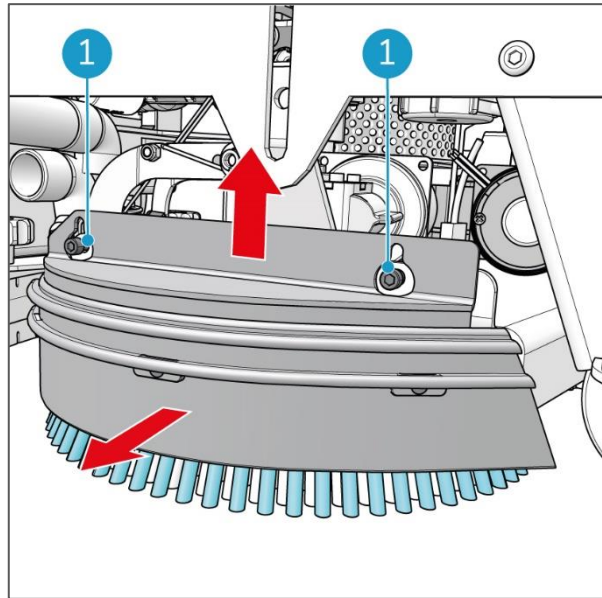
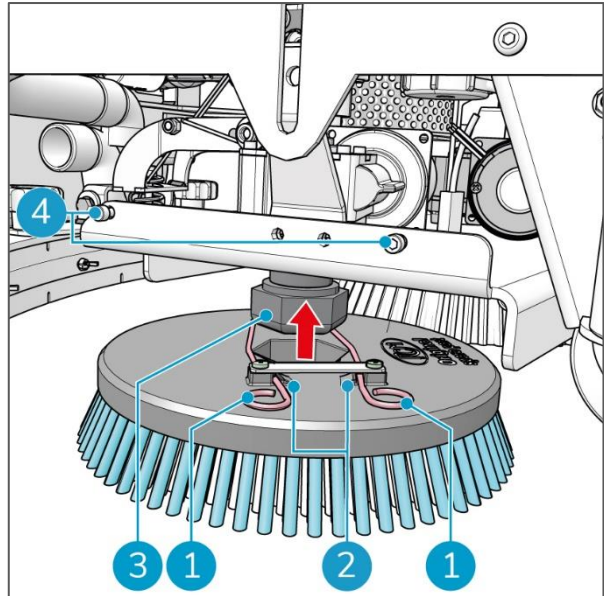

Figure 47
Figure 49
3. Pull it from its supporting bolts (Figure 47, pos 1) to remove it.
1. Make sure that the springs (Figure 49, pos 1) are locked into place behind the cams (Figure 49, pos 2).
2. Push the disc brush on the hexagonal nut of the drive shaft (Figure 49, pos 3) and wiggle it until you feel it is in place.
3. Release the springs to lock the clamp on the hexagonal nut (Figure 49, pos 3).
4. Align the holes of the grey brush cover (Figure 47) with the supporting bolts (Figure 49, pos 4).